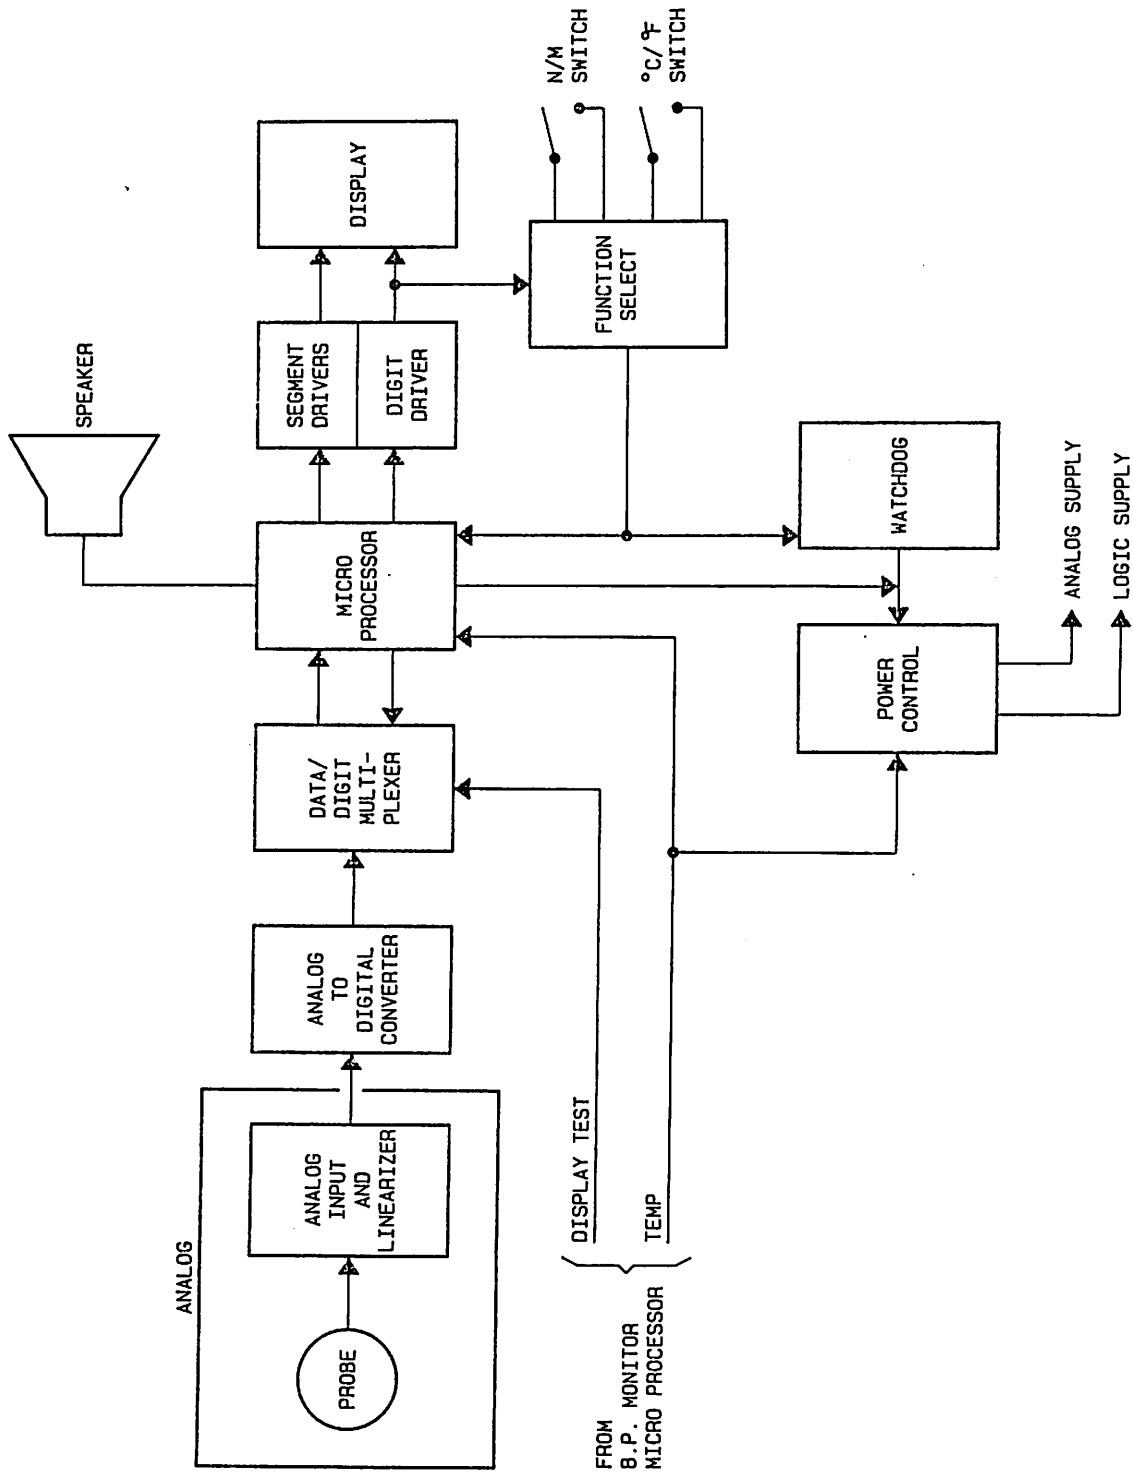

Figure 3-32. Block Diagram of the Thermometer
3.10 THERMOMETER FUNCTIONS (figure 3-32)
As shown in the block diagram (figure 3-32) the analog temperature signal is linearized and converted to BCD. The μ controller reads the data through the multiplexer, and writes the temperature to the display. The thermometer module also contains a power control circuit so that internal power on the board is off when not in use.